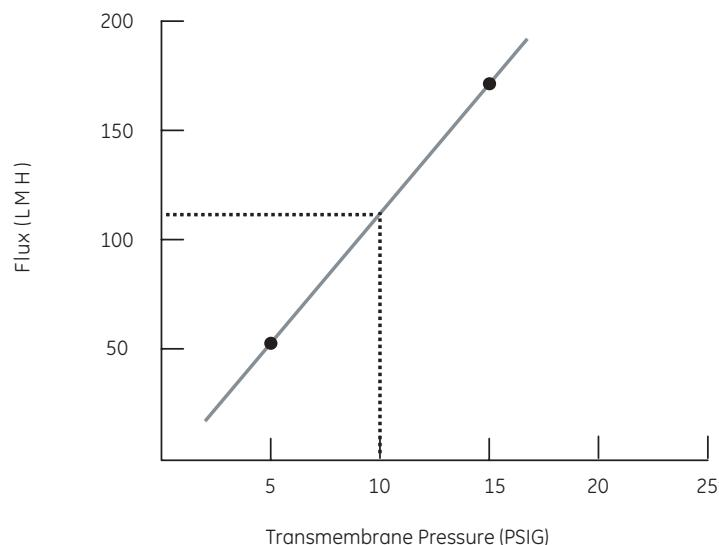

Fig 12. Plot of water flux versus transmembrane pressure
Plot the calculated flux values against the transmembrane pressure (Fig 12). Determine the water flux in LMH at 0.7 barg (10 psig). In fig 12, the flux at 0.7 barg (10 psig) is 115 LMH.
- 1 Setup your cross-flow system to circulate the retentate and permeate back to the feed reservoir (Fig 12).